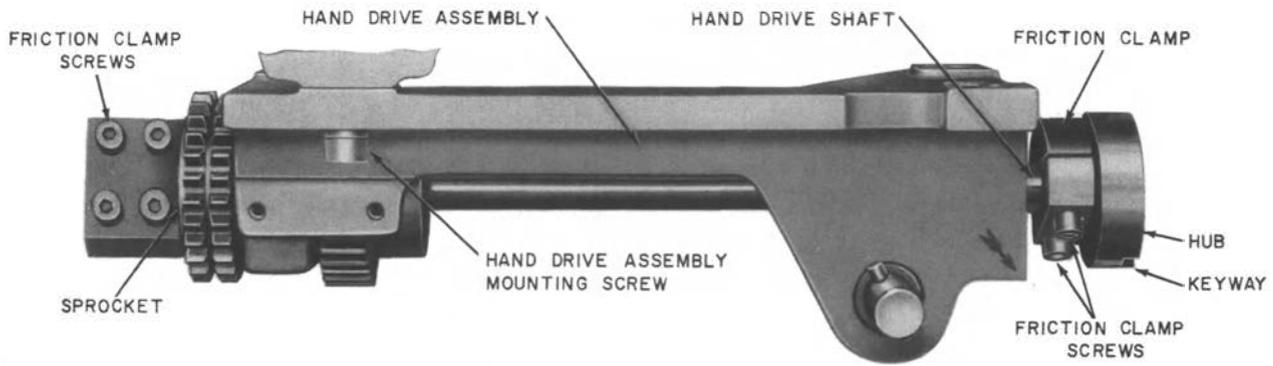
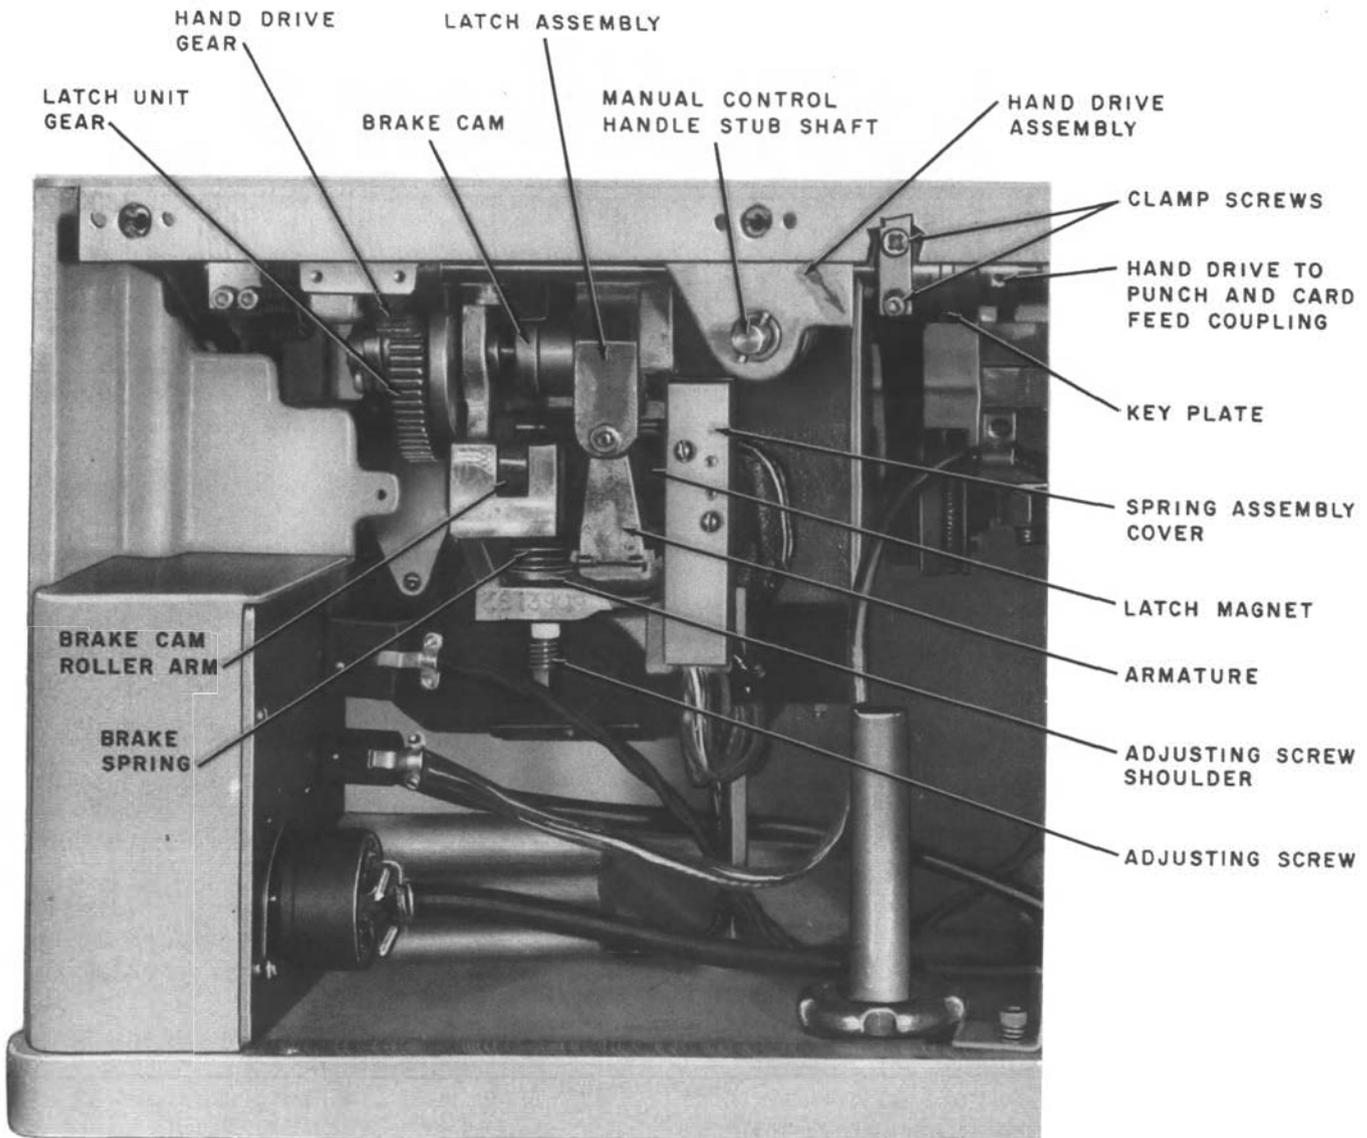

Fig. 34—KS-13910 Hand Drive Assembly
Fig. 35—Latch and Hand Drive
- (4) Remove the chain from the hand drive chain sprocket.
- (5) Loosen the clamp screws (Fig. 35) in the hand drive to punch and card feed coupling using a straight hex socket screw wrench with handle.
- (6) Slide the loose portion of the coupling to the left and remove the key plate.
- (7) Loosen the latch unit mounting screws sufficiently to free the meshing of the latch unit to hand drive gears using a straight hex socket screw wrench with handle.
- (8) Remove the hand drive mounting screws (Fig. 34) using a straight hex socket screw wrench with handle and support the hand drive unit before removing the last mounting screw.
- (9) Lower the hand drive unit to clear the dowel pins and remove the unit from the perforator.
- (10) Slide the left portion of the coupling off the hand drive shaft and transfer the coupling to the replacement hand drive assembly.
- (11) Position the coupling so that the hand drive shaft does not extend into the keyway.
- (12) Mount the replacement hand drive assembly in the perforator.
- (13) Reassemble the hand drive to punch and card feed coupling by rotating the punch and card feed shaft to align the index lines of the card feed mechanism just as the card hook shoe leaves the chain guide.
(a) **Key Plate:** To replace the key plate (Fig. 35), proceed as follows.
- (1) Loosen the clamp screws (Fig. 34) in the driving (left) portion of the coupling.
- (2) Slide the coupling to the left and remove the key plate.
- (3) Substitute the replacement key plate and reposition the loose portion of the coupling.
- (4) Securely tighten the clamp screws.
- (1) Remove the hand drive assembly in accordance with 3.27.
- (2) Remove the driving portion of the coupling from the hand drive shaft (Fig. 35).
- (3) Substitute the replacement driving portion of the coupling and remount the hand drive assembly in accordance with 3.27.
- (2) If the driven portion of the coupling is secured to the shaft by a friction clamp (Fig. 34) or by clamp assemblies, loosen the clamp using a straight hex socket screw wrench with handle and remove the coupling from the shaft.
- (3) If the driven portion of the coupling is pinned to the shaft, remove the pin using the 1/8-inch drive pin punch and 4-ounce riveting hammer and remove the coupling from the shaft.
- (4) Substitute the replacement coupling and remount the hand drive assembly in accordance with 3.27.
3.29 **Latch Assembly:** To replace the latch assembly (Fig. 35 and 38), proceed as follows.
3.30 Brake Spring: To replace the brake spring (Fig. 35), proceed as follows.